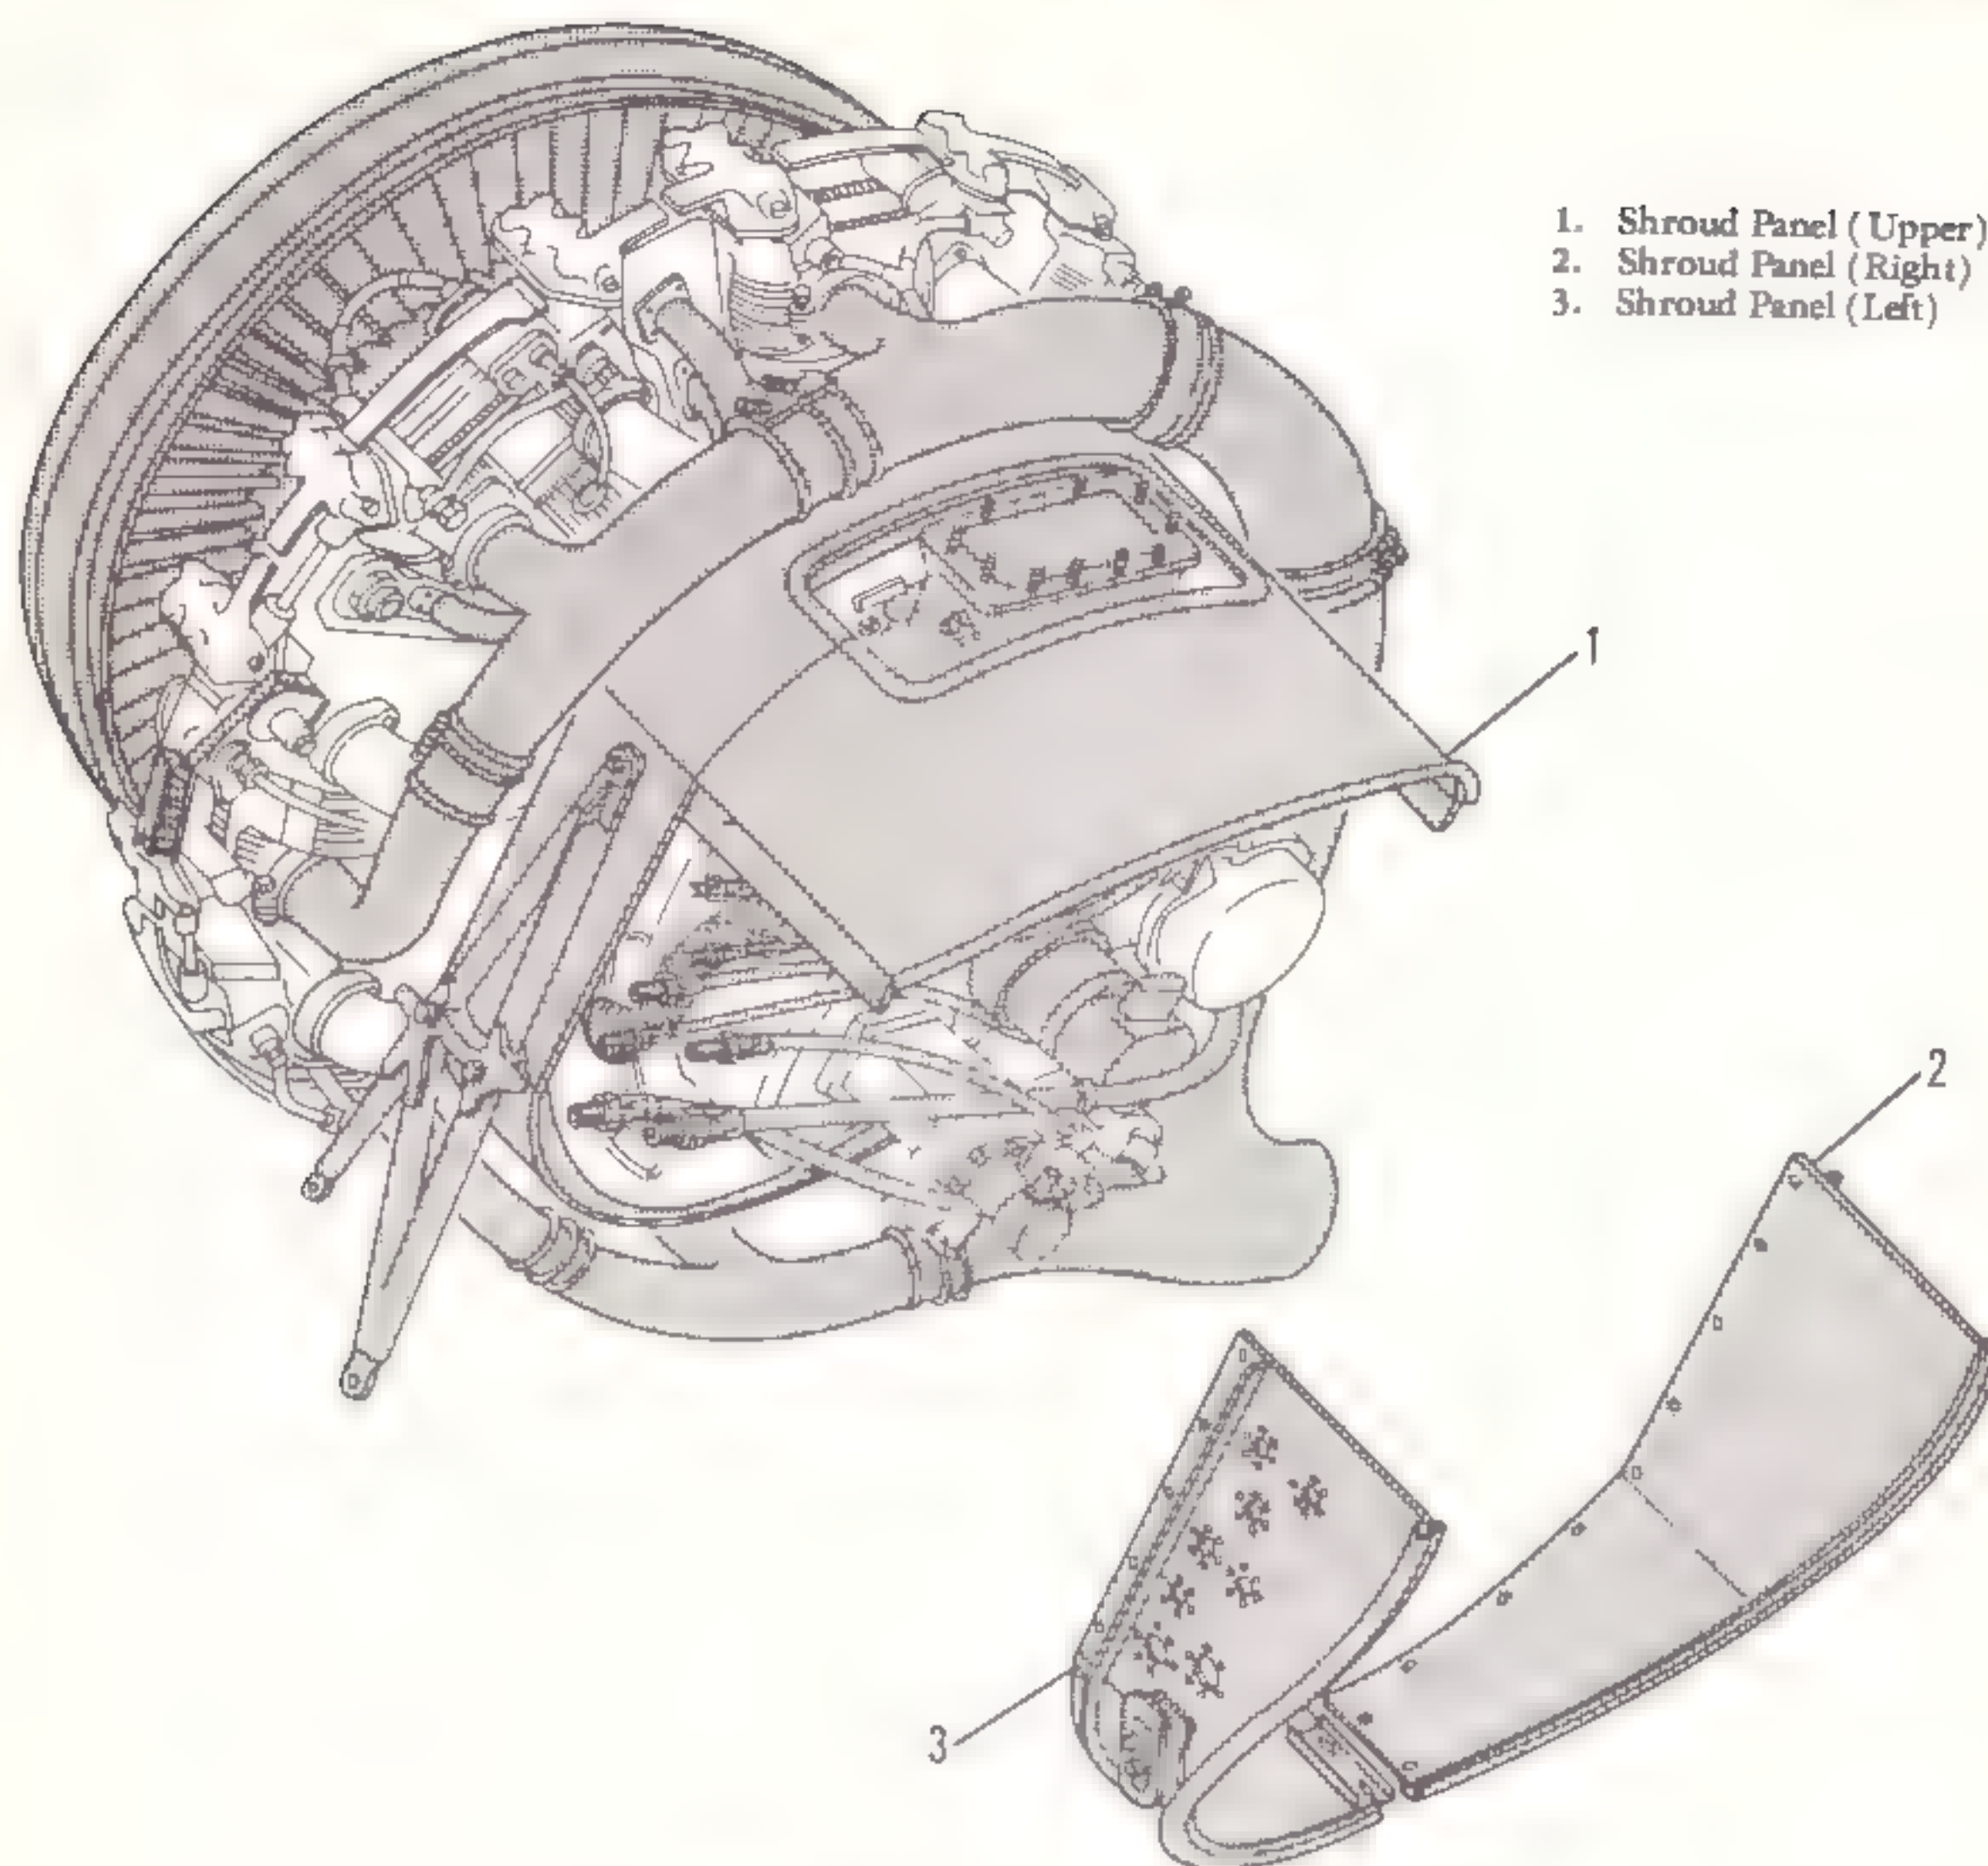

Figure 5-79. Accessory compartment cover assembly
5-188. Accessory Compartment Cover Assembly. The accessory compartment cover assembly consists of shroud panels (1, 2, and 3, figure 5-79). The accessory compartment cover assembly directs the cooling air around the components installed on the engine accessory section.
b. Remove shroud panel (1, figure 5-79) as follows:
(1) Remove cover from terminal block on top of shroud panel (1) and disconnect carburetor air temperature bulb electrical wires.
(2) Pull lower electrical wires (carburetor air temperature bulb) down into accessory section. Remove terminal block and grommet from shroud panel (1).
(3) Release fasteners securing shroud panel (1). Pull shroud panel from beneath well assembly.
c. Remove screws securing shroud panel (2). Remove shroud panel.
d. Remove shroud panel (3) as follows:
5-192. *Installation.* a. Position shroud panel (2, figure 5-79) in place and secure with screws.